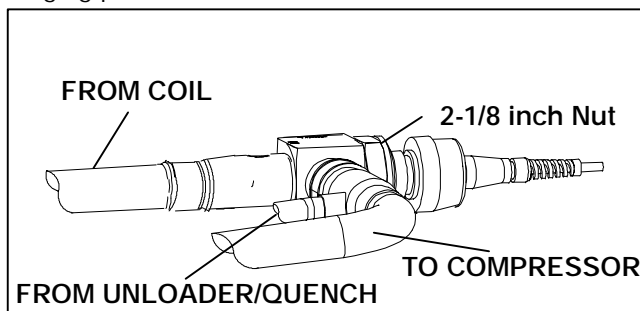

Figure 6-19 Suction Modulation Valve (SMV)
1. Stop the unit, disconnect the four pin connector from the stepper module to the valve (see Figure 6-19) and attach the SMA-12 stepper drive to the connector going to the valve.